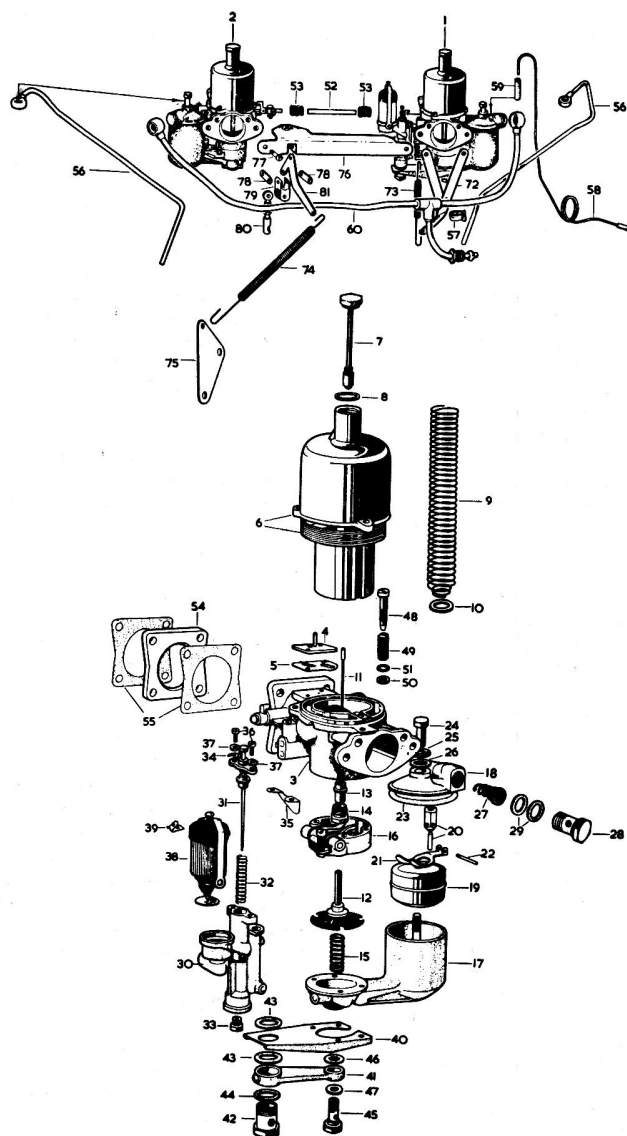

FIG.3.13. THE S.U. HD.6 CARBURETTOR (FRONT)
1 The 3.4 and 3.8 litre and the 340 models are fitted with twin SU type HD 6 carburettors whilst the 240 model has twin SU HS 6 carburettors, these are illustrated in Figs.3.13 and 3.14. They are generally similar in appearance and operation the main difference in construction being that in the case of the HD 6 the jet is fixed and the mixture is controlled by an external screw and lever (item B in Fig.3.28) whilst in the HS 6 type the position of the jet in relation to the needle can be adjusted by means of an adjusting nut at the base of the carburettor and this movement of the jet controls the mixture.
1 Remove the starting carburettor from the carburettor by undoing the banjo bolt (item 42 in Fig.3.13). From this point onwards both front and rear carburettors can be treated in a similar manner.